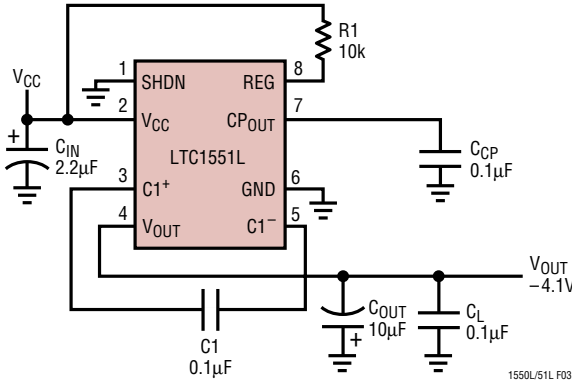
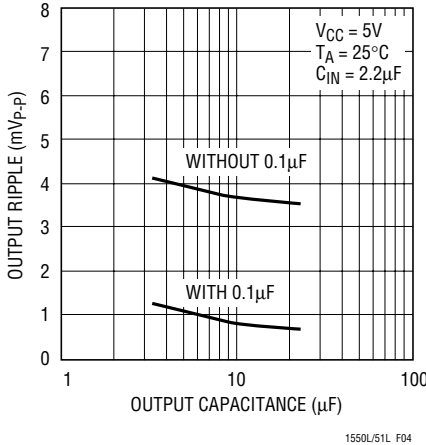
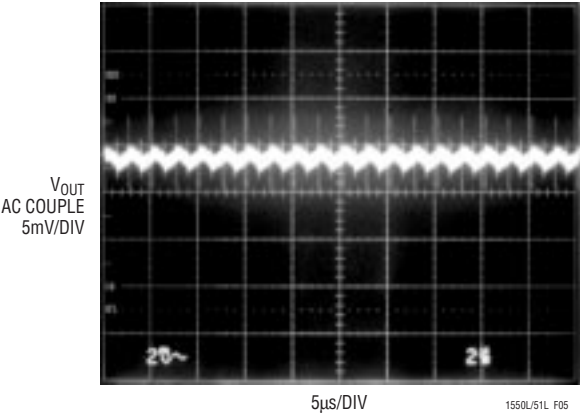

Figure 3. Output Ripple Test Circuit
Figure 4. Output Ripple vs Output Capacitance
Figure 5. Output Ripple with 10µF Tantalum Capacitor
**Load Transient Response (See Figure 3, VCC = 5V)**
**Line Transient Response (See Figure 3, IL = 10mA)**
Output Spectrum (See Figure 3)
Spot Noise (See Figure 3)
Figure 4 shows the effect of using different output capacitor values on the LTC1550L/LTC1551L output ripple. These curves are taken using the LTC1551L circuit in Figure 3, with CIN = 2.2μF and ILOAD = 5mA. The upper curve shows the performance with a standard tantalum capacitor alone and the lower curve shows that of the tantalum capacitor in parallel with a 0.1μF ceramic capacitor. As a general rule, larger output capacitors provide lower output ripple. To keep output voltage ripple below 1mVP-P, 10μF, or greater, in parallel with a 0.1μF ceramic capacitor is required. To guarantee loop stability under all conditions, a minimum of 4.7μF is required at the output.
Figure 4 shows a marked decrease in peak-to-peak output ripple when a 0.1µF ceramic capacitor is added in parallel with the tantalum output capacitor. The additional ripple with the tantalum output capacitor alone is mostly very high order harmonics of the 900kHz clock, which appear as sharp "spikes" at the output. The energy in these spikes is very small and they do not contribute to the RMS output voltage, but their peak-to-peak amplitude can be several millivolts under some conditions. A 0.1µF ceramic capacitor has significantly lower impedance at the spike frequency than a large tantalum capacitor, and eliminates most of these left-over switching spikes that the tantalum capacitor leaves behind. Figure 5 and 6 show scope photos of the output of Figure 4 with and without the additional ceramic capacitor at the output.
C1. Surface mount tantalum or ceramic capacitors with low ESR generally provide adequate performance. Figure 7 shows the LTC1550L/LTC1551L peak-to-peak output ripple vs  $C_{IN}$ , taken using the test circuit in Figure 3 with  $I_{LOAD}$  set at 5mA.  $C_{OUT}$  is a  $10\mu F$  in parallel with a  $0.1\mu F$  ceramic capacitor.